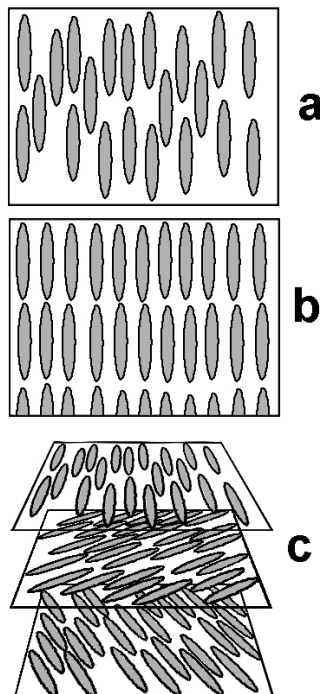

Fig.5. Allocation of molecules in nematics (a), smectics (b) and cholesteric (c) liquid crystals.
**Liquid crystals** are substances with properties both liquid and crystal. They flow as liquid, but have optical properties of crystals. There are three kinds of liquid crystals: *nematics*, *smectics* and *cholesteric* liquid crystals. Molecules of liquid crystals have prolate, stretched shape in the form of rod or elongated plate. As result, molecules can be ordered in material by different ways (fig.5).
In nematics their molecules oriented parallelly, but their centers are located disorderly (fig.5, a). In smectics molecules are allocated in parallel layers; in these layers molecules are more or less ordered. Long axes of molecules are perpendicular to layer planes (fig.5, b). In crystals of cholesterics molecules are allocated in parallel layers too; but in every layers molecules are oriented in layer plane as in nematics; long axis's of molecules lie in layer plane. From one layer to other layer orientation of molecules axes rotate at small angle (fig.5, c) – spiral twisting of molecular structure has place. Rotation angle usually is near to 15°.